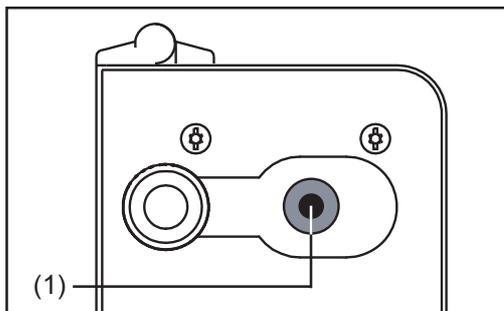
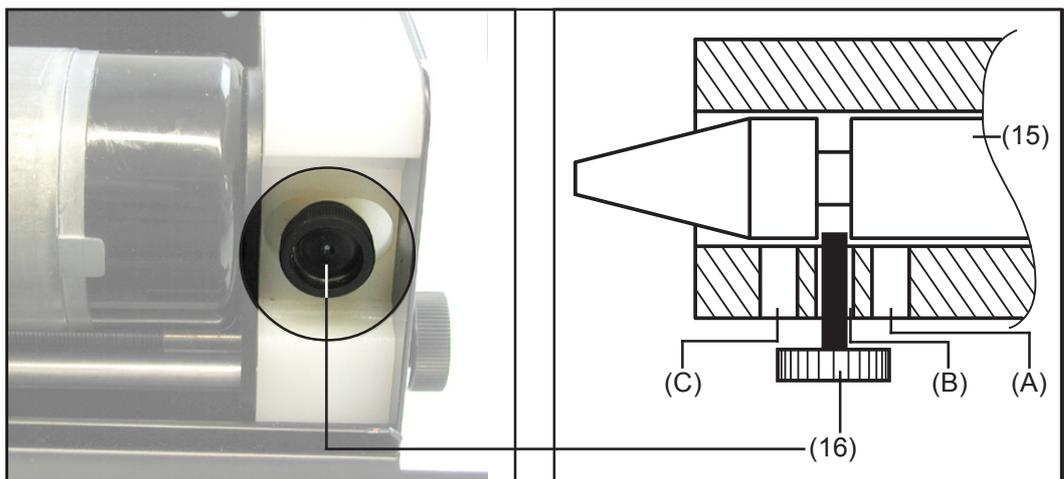

Fig.26 Push the wire feed hose in
Fig.27 Fix the wire feed hose in place
- Push wire feed hose (15) - Fig. 27 - with the wire feed nozzle into the mount (1) - Fig. 26.
- Push the drive unit to the left as far as the stop - by turning the positioning screw (5)
- Fig. 27.